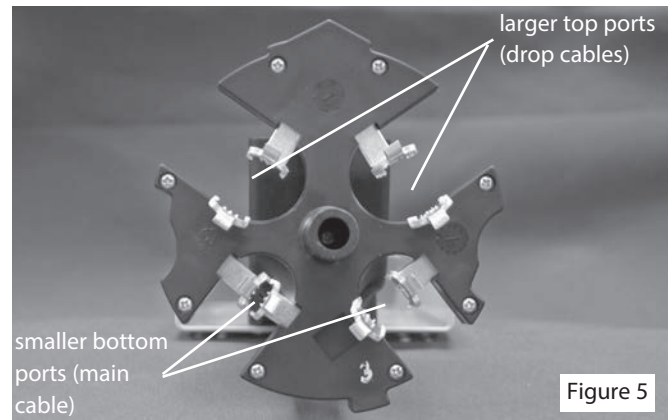

Figure 5
1. Main cables are installed in the two smaller bottom ports. The drop cables will be placed in the two larger top ports. (Fig. 5)